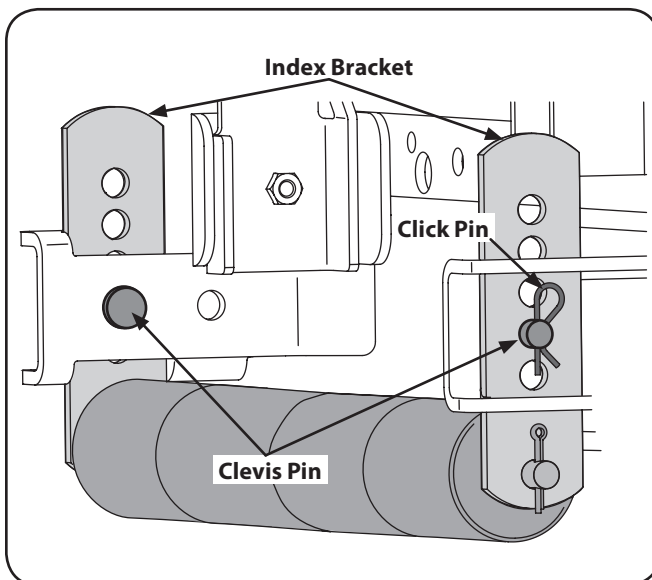

Figure 6-7
1. While supporting the roller assembly, remove click pin and withdraw the clevis pin from both the left and right roller index brackets. See Figure 6-7.
3. Align the nearest index bracket holes with the holes in the deck mounting brackets. Insert the clevis pins through the deck brackets and the index brackets and secure with the click pins. See Figure 6-7.